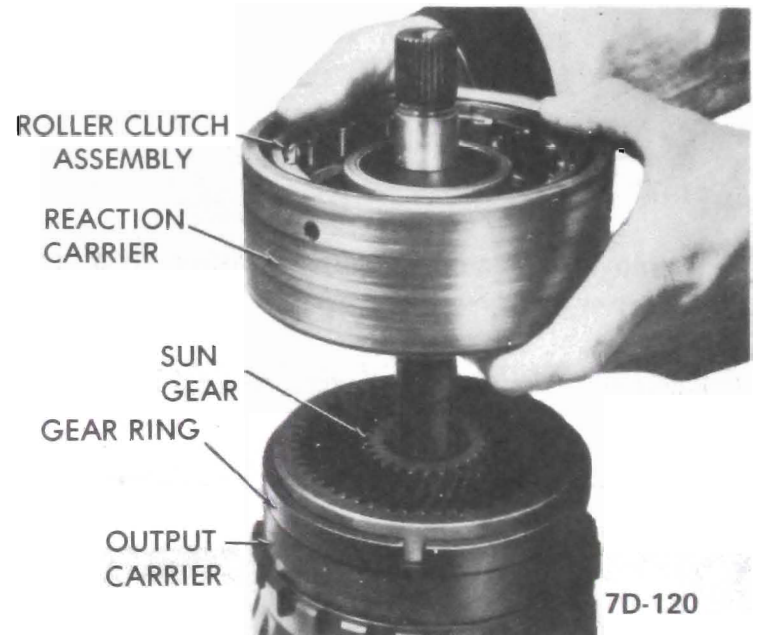

Figure 7D-120
4. Remove reaction carrier and roller clutch assembly. See Figure 7D-120.